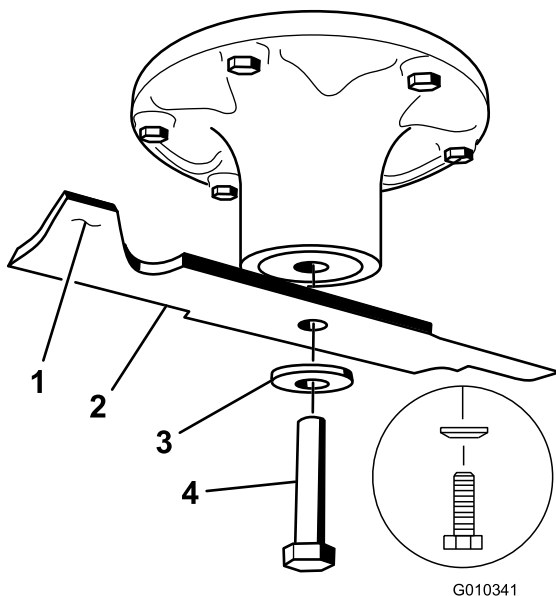

Figure 58
Hold the blade end using a rag or thickly-padded glove. Remove the blade bolt, curved washer, and blade from the spindle shaft (Figure 58).
- A. File some metal off the end of the sail area only (Figure 58).
1. Install the blade onto the spindle shaft (Figure 58).
2. Install the spring disk and blade bolt (Figure 58).